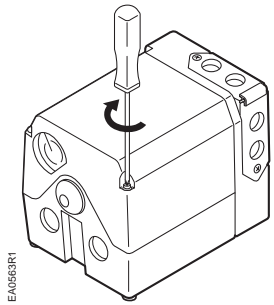

Figure 7.
- Press the cover into place and then press the screws inward and tighten (See Figure 7).